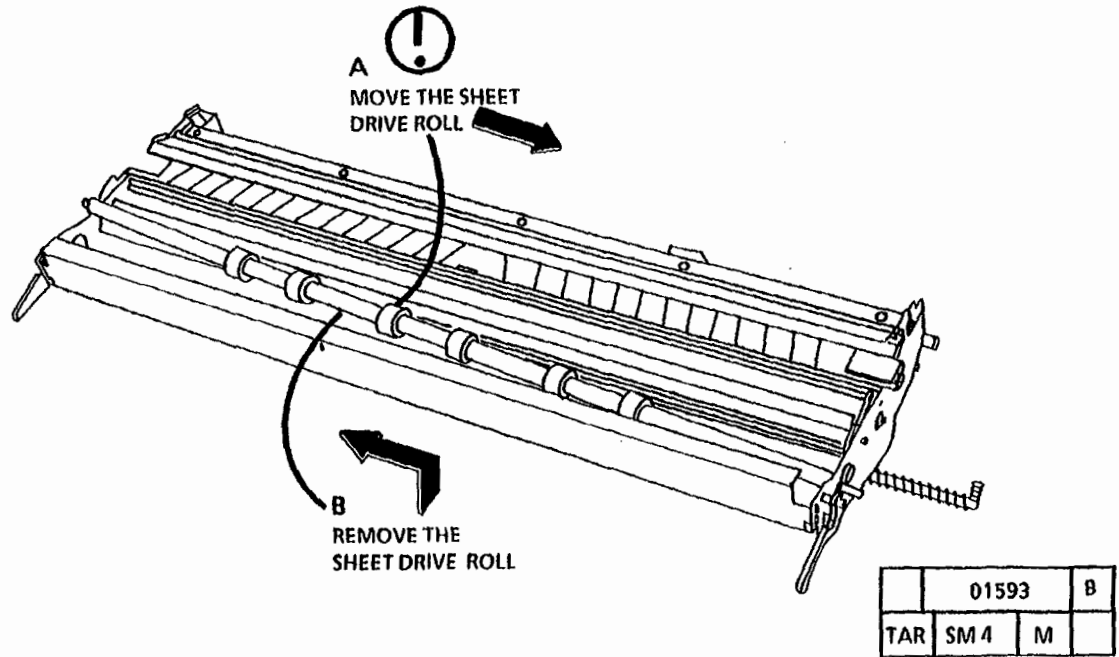

Figure 4. Remove the Sheet Drive Roll
8. (Figure 4): Remove the Sheet Drive Roll.